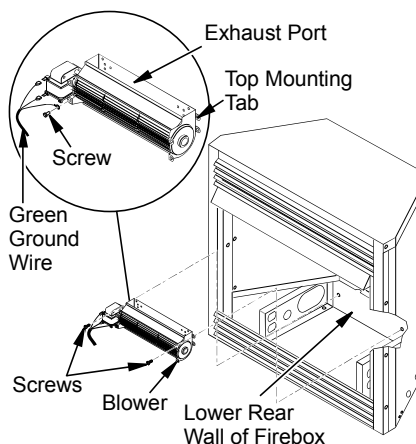

Figure 20 - Mounting Blower to Firebox
6. Place the blower against lower rear wall of firebox outer wrapper with the exhaust port directed upward. Align the holes in top mounting tabs of blower with holes in wall of wrapper (see Figure 20). Using 2 screws provided, mount blower and tighten screws securely.